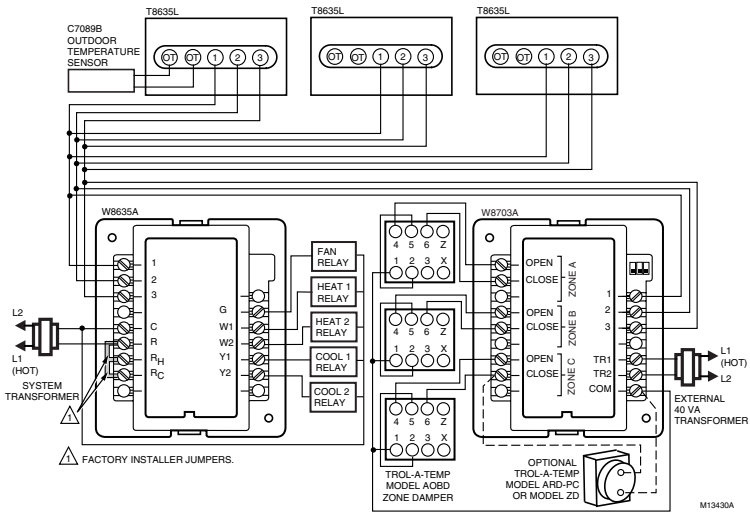

Fig. 8. T8635L/W8703A/W8635A with Outdoor Temperature Sensor.
1. Connect the heating/cooling system according to the type of system installed, see Fig. 5-7. See Fig. 8 for complete system wiring.